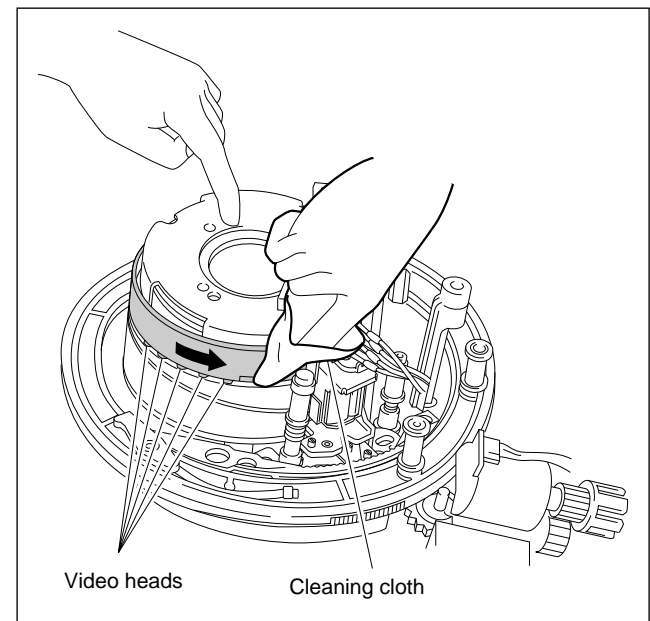

Figure 1. Cleaning of Drum
5. Clean the outer circumference and video heads of the upper drum (shaded portions in Figure 1). (Refer to Section 2-2-3 for the cleaning method.)